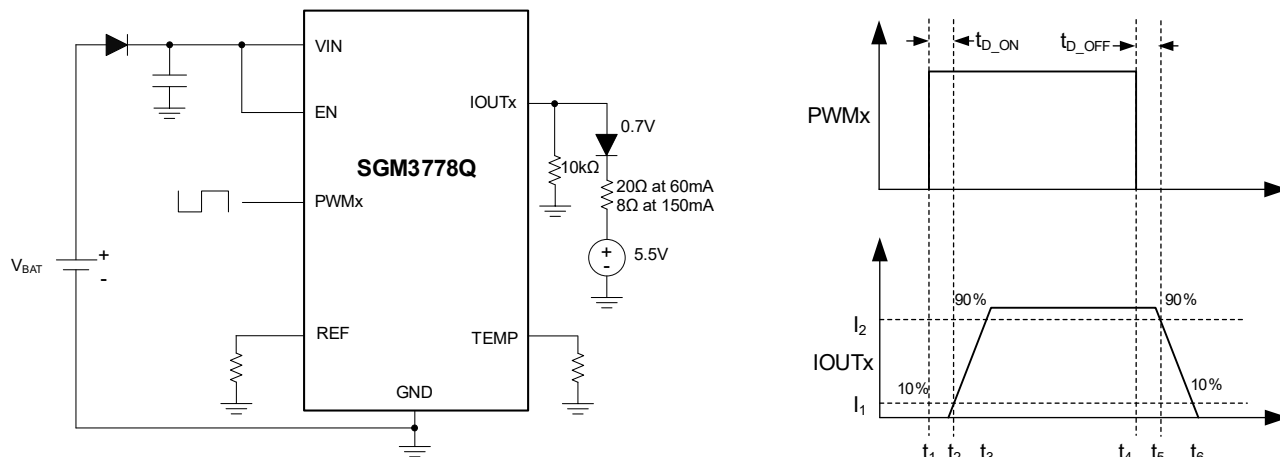

Figure 2. Slew-Rate and Delay-Time Tests Load Model
4. See Figure 2 for the load model for the slew-rate test and delay-time test.